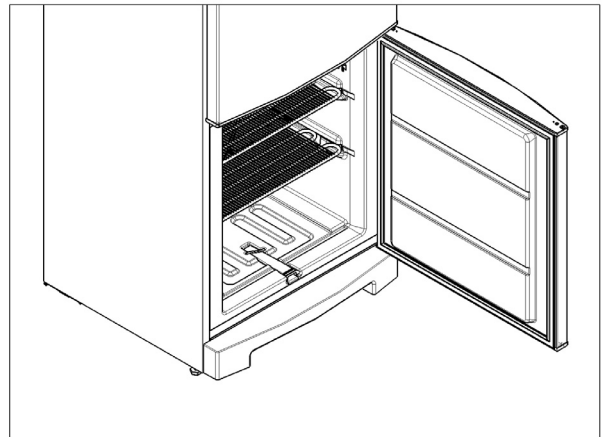

Fig. 8
- 3... Remove the rubber plug (see figure 8) and place it as shown in figure 9.